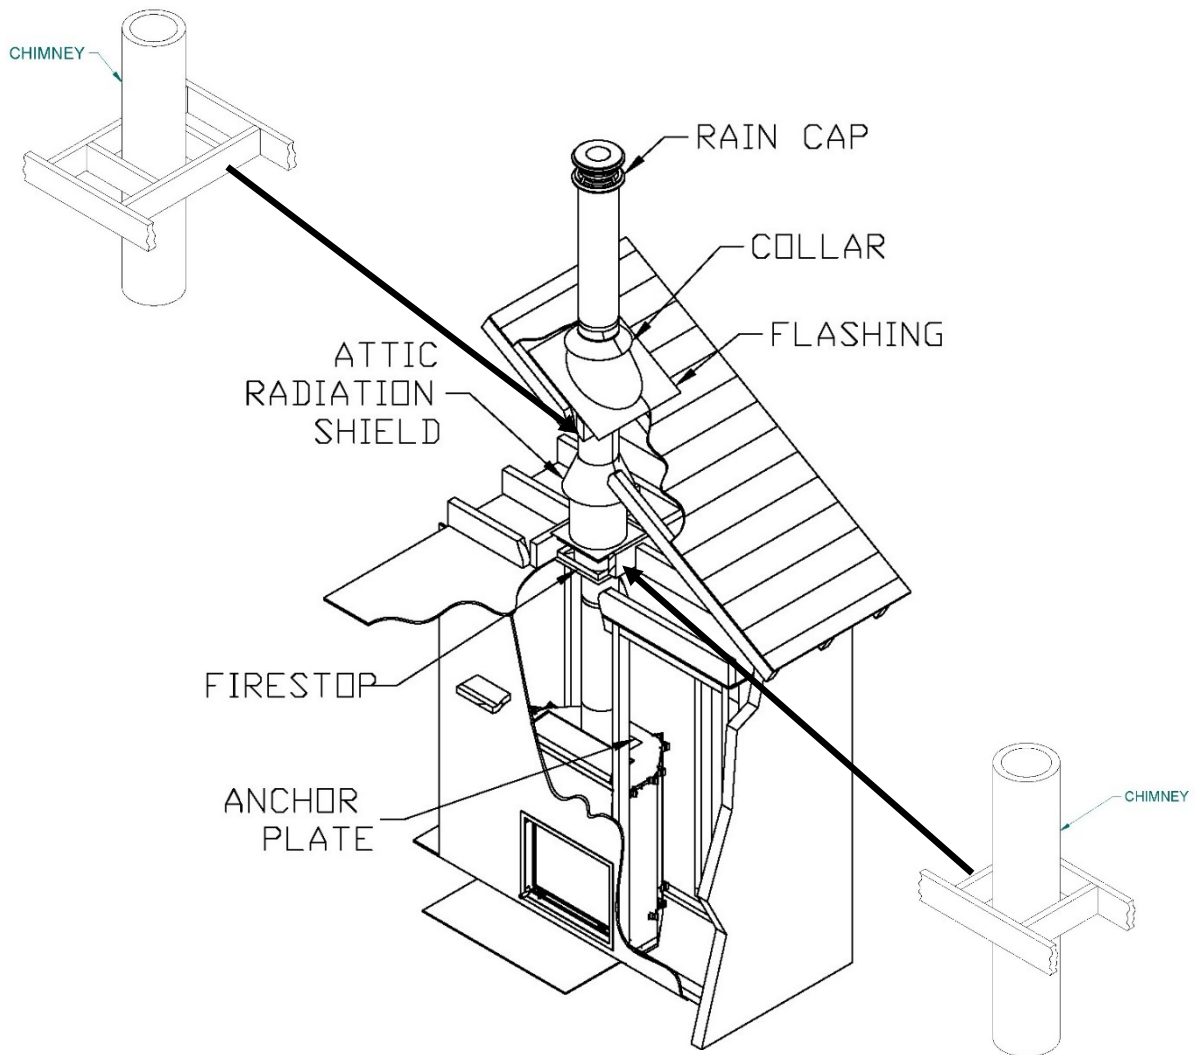

Figure 33
2. From below, install a firestop supplied by the chimney manufacturer in each ceiling/floor separation through which the chimney will pass. At the attic level, install an attic radiation shield from above (see **Figure 33**).
3. Follow the chimney's manufacturer's instructions and place the first chimney length on the fireplace. For all chimneys, you must use an anchor plate supplied by the chimney manufacturer before installing the first chimney length (see **Figure 33**). Continue installing chimney lengths making sure to lock each length in place according to the chimney manufacturer's instructions. In many cases, it is recommended to secure connections with three (3) ½" (12 mm) metal screws.
5. Then, put the roof flashing in place and seal the joint between the roof and the flashing with roofing pitch (see **Figures 33**). For sloping roofs, place the flashing under the upper shingles and on top of the lower shingles. Nail the flashing to the roof, using roofing nails.